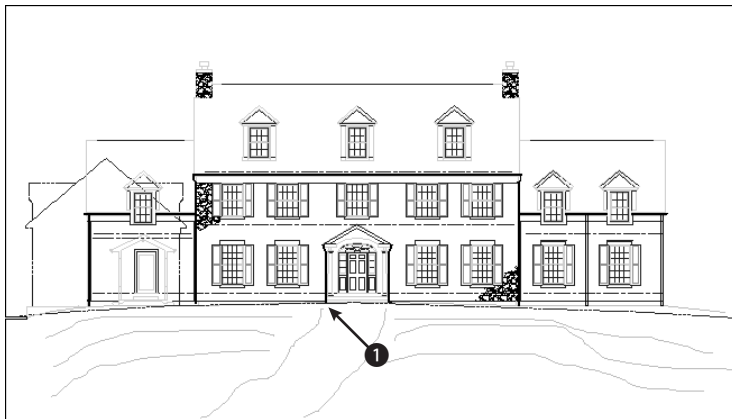

Figure 16-49: A sketched path and contours
2. Save the file as `ab16-10.dwg` in your AutoCAD Bible folder. It shows the front elevation of a house. You will add the sketched path and contours, as shown in Figure 16-49.
5. At the Sketch. Pen eXit Quit Record Erase Connect. prompt, move the cursor to ❶ in Figure 16-49. Click the pick button to put the pen down and draw the first line of the path. Click the pick button to put the pen up.
6. Use the same technique to draw the other lines in Figure 16-49. If you make a mistake, type **q** ↵ to quit and then start again.